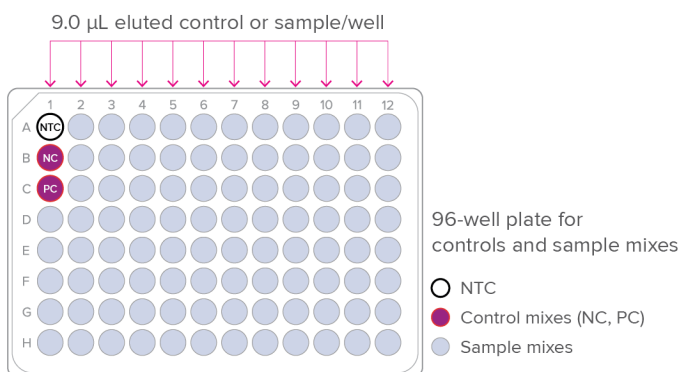

Figure 3. Controls and sample mixes pipetting map
- 4 Using an 8-channel pipette, distribute 9  $\mu$ L of binding buffer/RNAsecure mix to each well of a new, labeled 96-well plate and store on ice or in a cold block until ready to prepare the control and sample mixes (Figure 3).